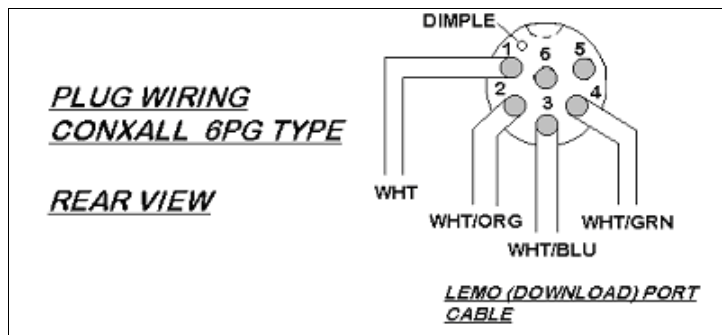

Figure C- 19: Download Port Connector
- ❑ 020 Refer to the illustration Figure C- 19, and connect the cable to the included ConXall™ plug connector using the illustrated pin configuration. Pin 1 is identified by a dimple. Pin 6 has no connection.